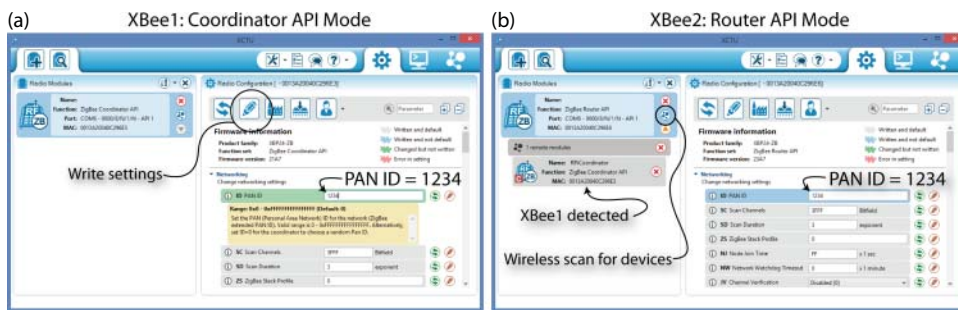
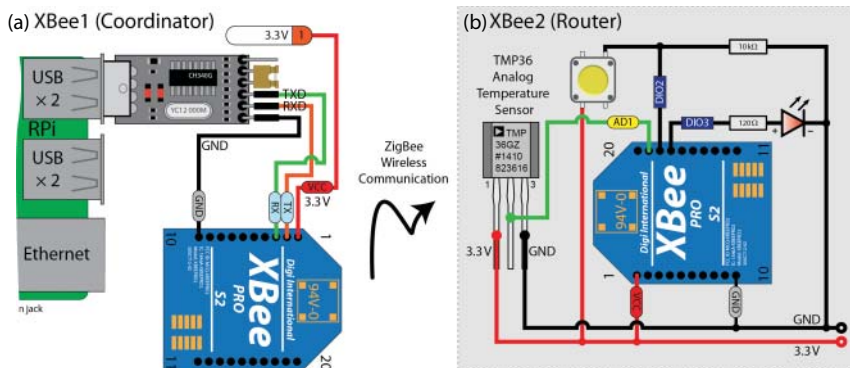

Figure 13-14: (a) Configuring XBee1 as a coordinator with PAN ID 1234, and (b) configuring XBee2 as a router with PAN ID 1234
Figure 13-15: (a) The XBee1 RPi coordinator circuit, and (b) the standalone XBee2 router circuit with sample I/O connections
In this section two identical XBee S2 ZigBee devices are configured into API mode by writing new firmware to them. As illustrated in Figure 13-14, XBee1 is configured as a ZigBee Coordinator (API mode), and XBee2 is configured as a ZigBee Router (API mode). In this example, the coordinator is attached to the RPi, but the XBee router is utilized as a standalone microcontroller, as illustrated in Figure 13-15.
The PAN ID is set to 1234 for both devices. Once the PAN ID is set for XBee1, it can be disconnected from the XBee USB Explorer and attached to the RPi, as illustrated in Figure 13-15(a).
The XBee2 can be placed in the XBee USB Explorer and programmed with ZigBee router firmware. A scan can then be performed by clicking the Wireless Scan for Devices button (as identified in Figure 13-14(b)). The XBee1 coordinator device that is attached to the RPi should be detected, and because the devices are both in API mode, it is possible to wirelessly change the settings on the XBee1 device.
In this example, the XBee2 router device is not attached to an Arduino; rather, it is used as a standalone microcontroller, as illustrated in Figure 13-15(b). The
- `remote64` is the address of the node that transmitted the data, which corresponds to the address of the XBee2 in Figure 13-15(b).
Using the same circuit configuration as in Figure 13-15, you can execute the `simple.c` program in `/chp13/xbee/cpp/` to test the library (remember to set the XBee UART device in the `simple.c` file):